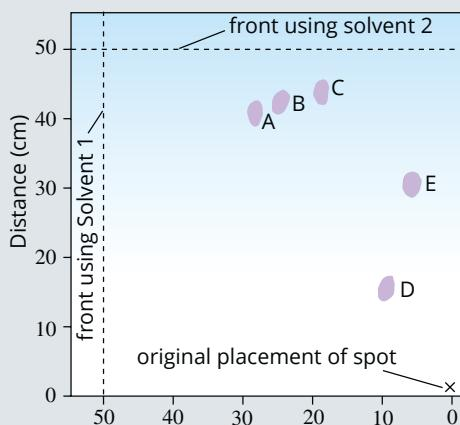

FIGURE 13.3.3 Appearance of the TLC plate after a second run with solvent 2 at right angles to the original spot.
- b** Try to identify the amino acids responsible for each spot. The TLC plate was then turned around so that it lay at a right angle to the original and a second chromatogram was produced using solvent 2. Figure 13.3.3 shows the appearance of the TLC plate after some time.